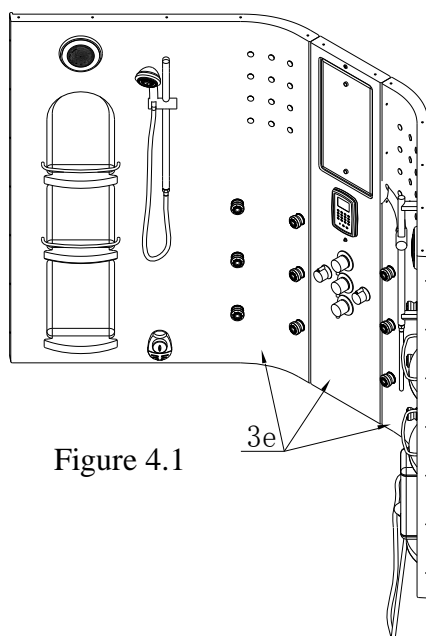

Figure 4.1
- ① Using 1/4 x 1 inch bolts (3a) connect the left and right small panels(3b,3c) to the middle panel(3d) respectively to complete the whole back panel of your steam shower (3e).(Figure 4.1)